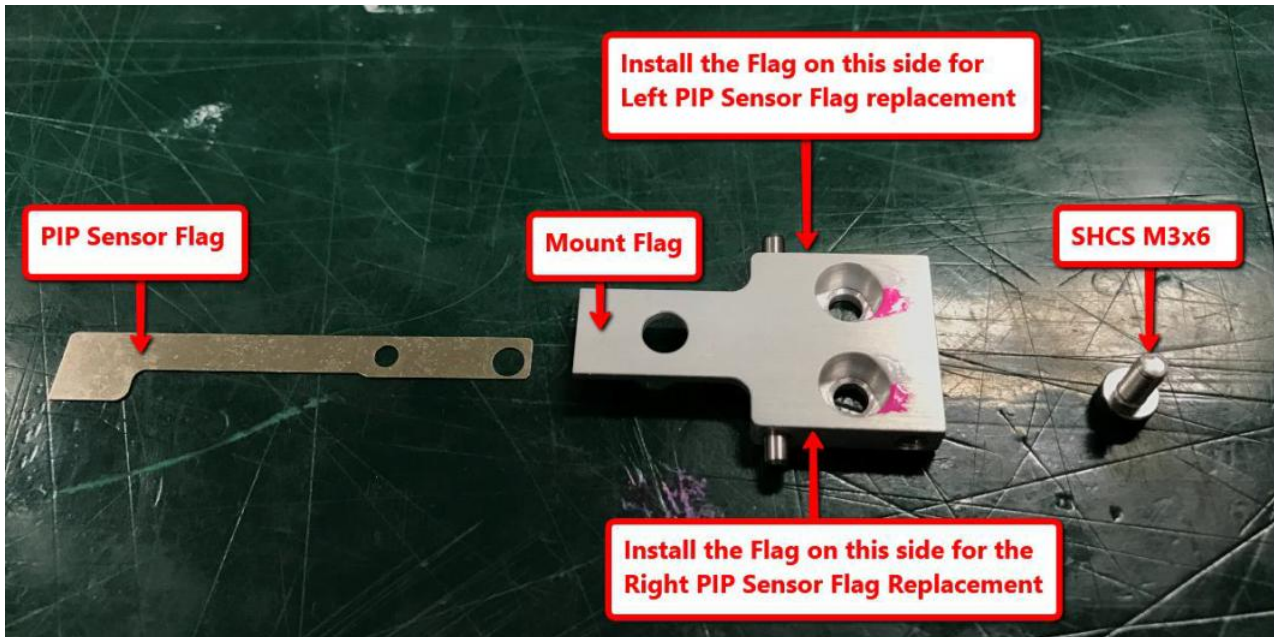

Figure 3 PIP Sensor Installation
- Prepare PIP Sensor Flag as Figure 3 & may refer to below Figure 3 for PIP Sensor Flag Orientation.